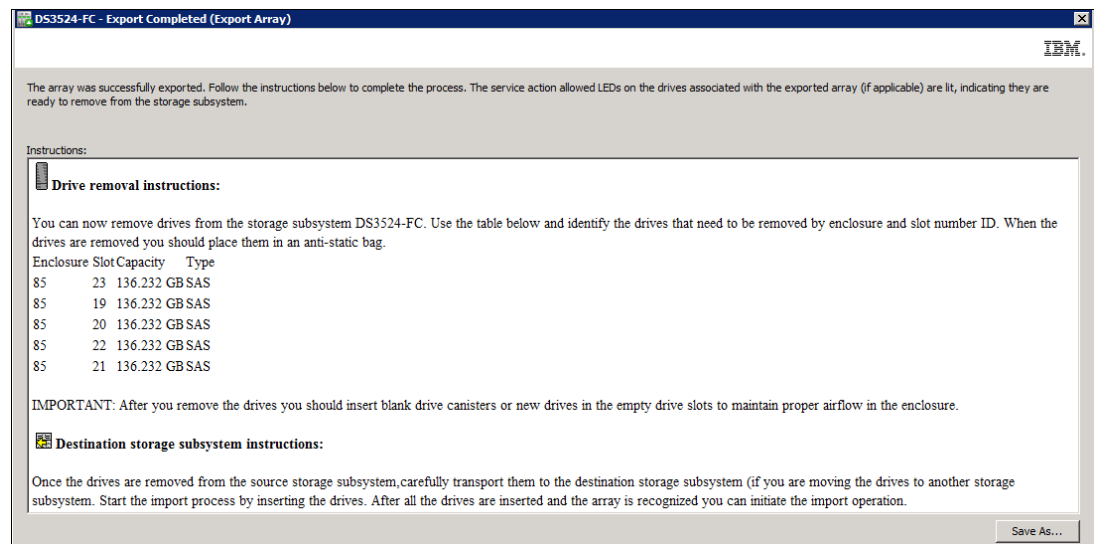

Figure 15-28 Export completed
6. When the process has completed, the wizard will indicate that the drives can be removed as shown in Figure 15-28.